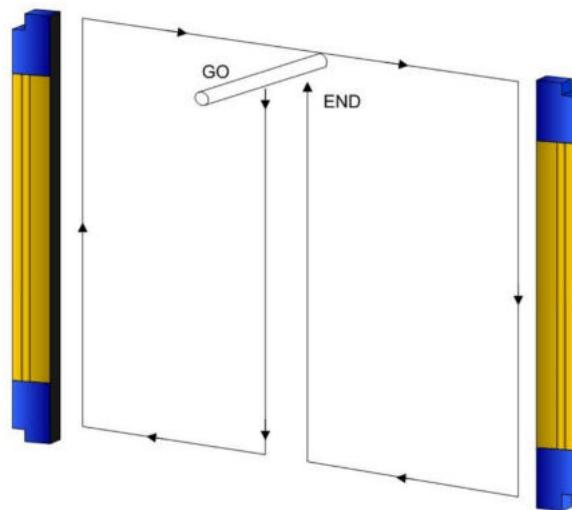

Figure 12 - Path of the test piece
- The ESPE remains in Safe State intercepting the beams along the detection zone using the specific test piece (TC-14, TP-30), following the scheme shown in Figure 12.